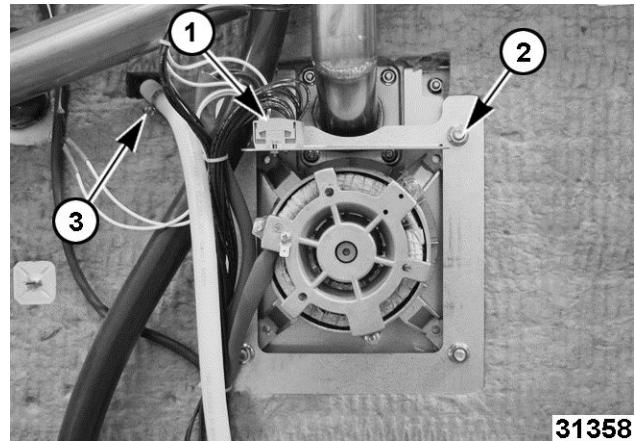

Fig. 135
2. Note and disconnect motor wires (1, Fig. 135) at TB2.